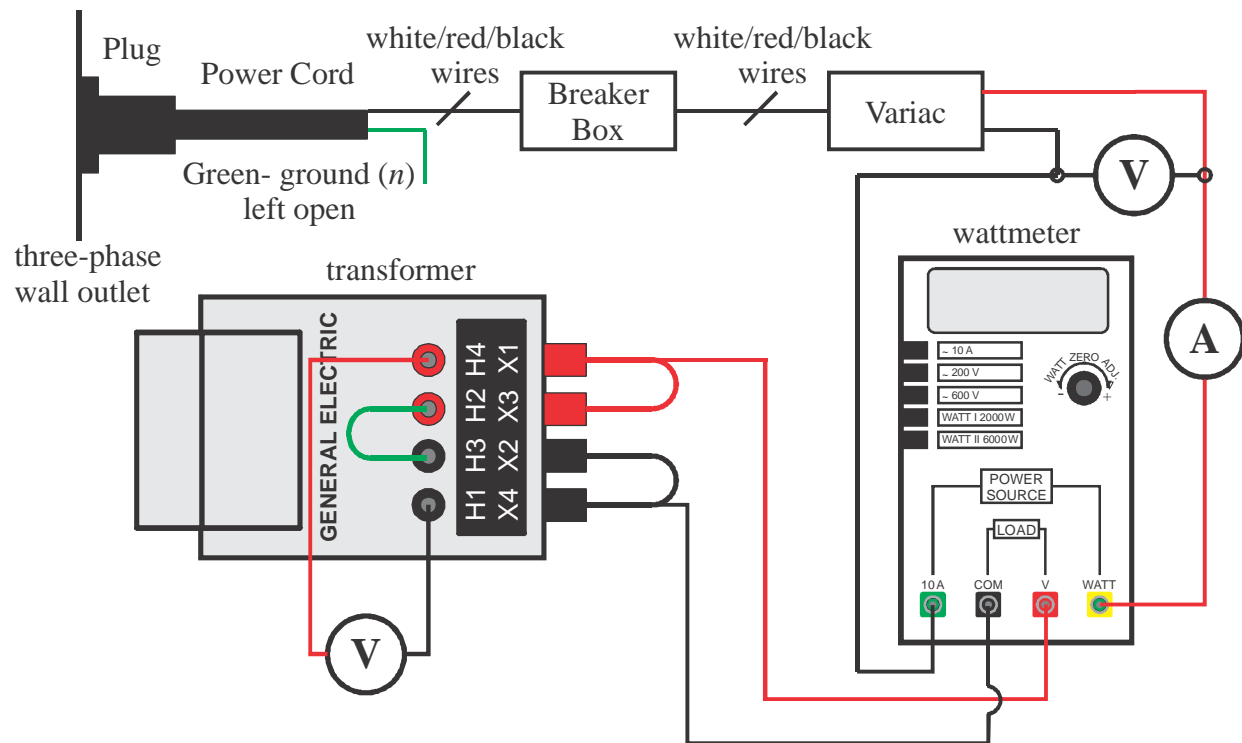

Figure 2 Connections for rated-voltage open circuit test on the low ($120 V_{\text{rms}}$) side of the transformer.
- 4) Perform the rated-voltage open circuit test on the low (120 V_{rms}) side of the transformer. A block diagram of the necessary connections, including wattmeter, voltmeters, and ammeter, is shown in Figure 2. Do **NOT** plug in the three-phase power cord until all connections have been made, wattmeter has been zeroed, variac set to zero, and three-phase breaker set to 'off'. After plugging in the three-phase power cord and setting the three-phase breaker to 'on', slowly raise the applied voltage to ~ 120 V_{rms} using the variac. Then, measure and record $V_{\text{oc},120}$, $I_{\text{oc},120}$, and $P_{\text{oc},120}$. In addition, measure and record $V_{\text{oc,high}}$. Using the variac, reduce the applied voltage to zero, set the three-phase breaker to 'off', and unplug the power cord. Do **NOT** disconnect any wires.